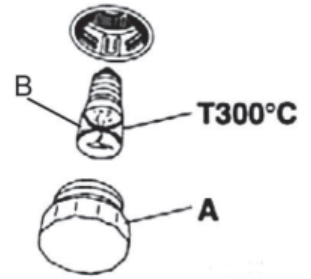

Fig. 10
- Remove the protective cover «A» (Figure 10).